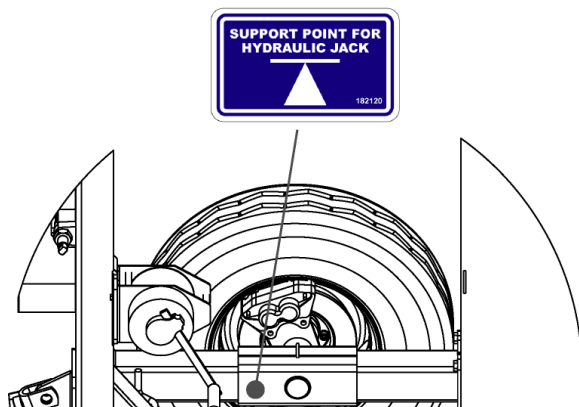

Figure 23 - Support point for jack location
- 2) Lift the machine using a mechanical or hydraulic jack applied to the chassis in the location indicated by the decal, as shown in Figure 23.